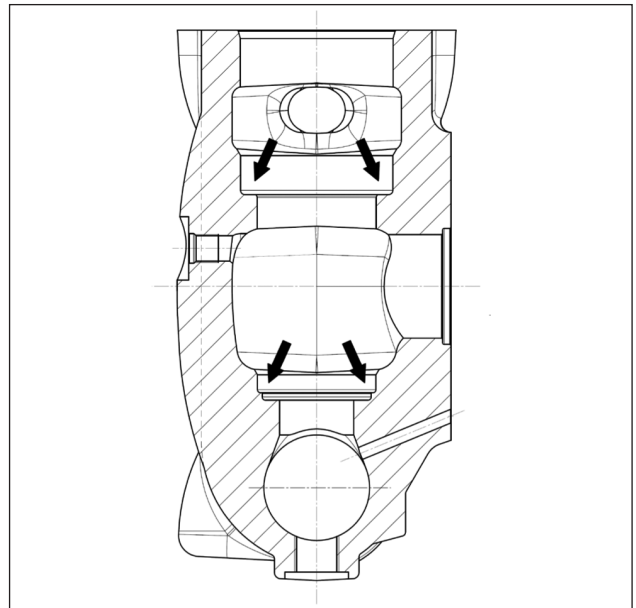

Fig. 115
Before repositioning the valve units, thoroughly clean and dry the relative housings on the head indicated by the arrows (pos. ①, Fig. 115).